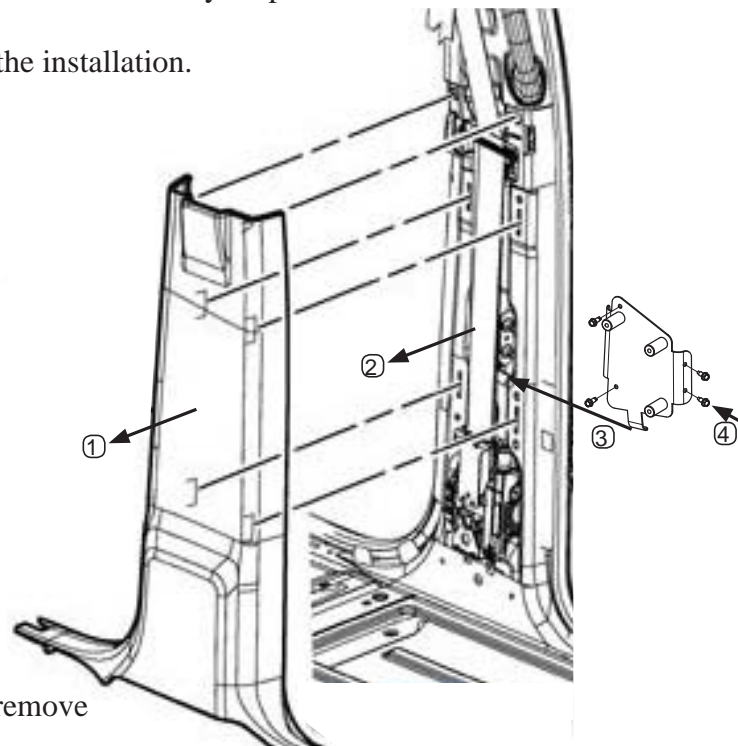

FIG. 1
C. Place the Passenger B-pillar bracket (3PRT5913-01P) against the B-pillar face (See Fig. 1). Orient the B-pillar bracket so the bottom tab comes in contact with the seat belt bracket shown in Fig. 2 located behind the seat belt [3]. The formed edges will wrap around the B-pillar. Using the supplied Self-Drilling screws (3X162) secure part 3PRT5913-01P to the B-pillar [4]. The seat belt should now be between the trim panel and the installed bracket. Verify it operates smoothly before re-installing trim panel.